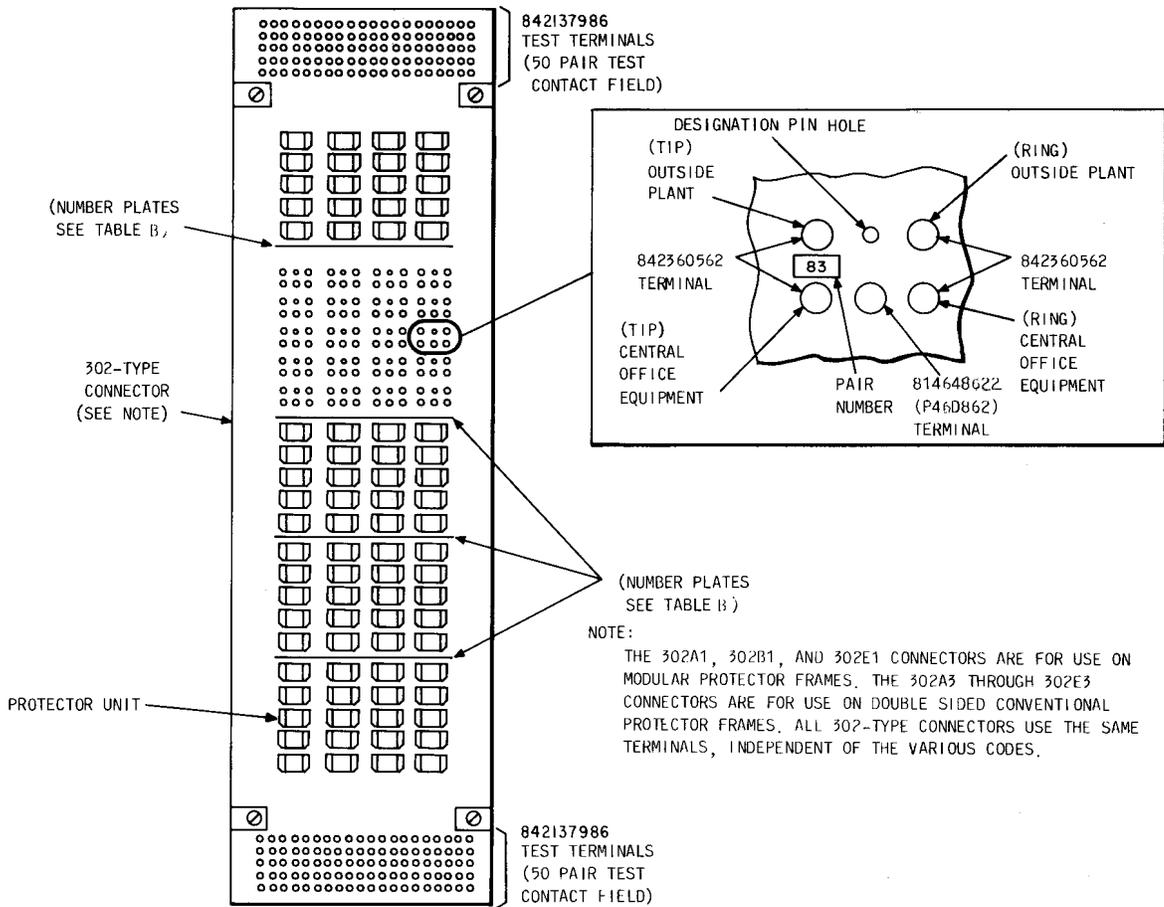
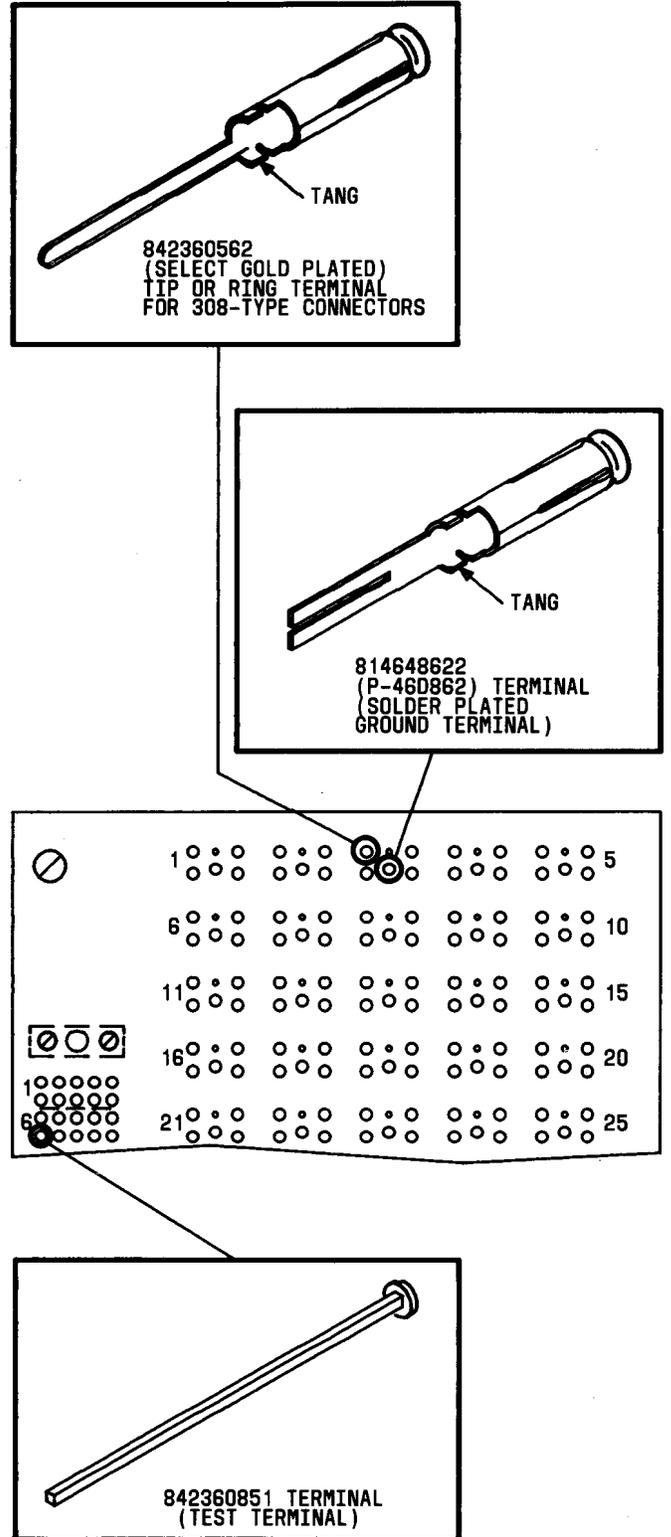

Fig. 1—302-Type Connector Panel
Fig. 3—308-Type 1 Connector, Front Side
**2.04** Figures 1 and 2 illustrate the 302-type connectors and Fig. 3 and 4 illustrate the 308-type connectors and the relationship of piece parts.